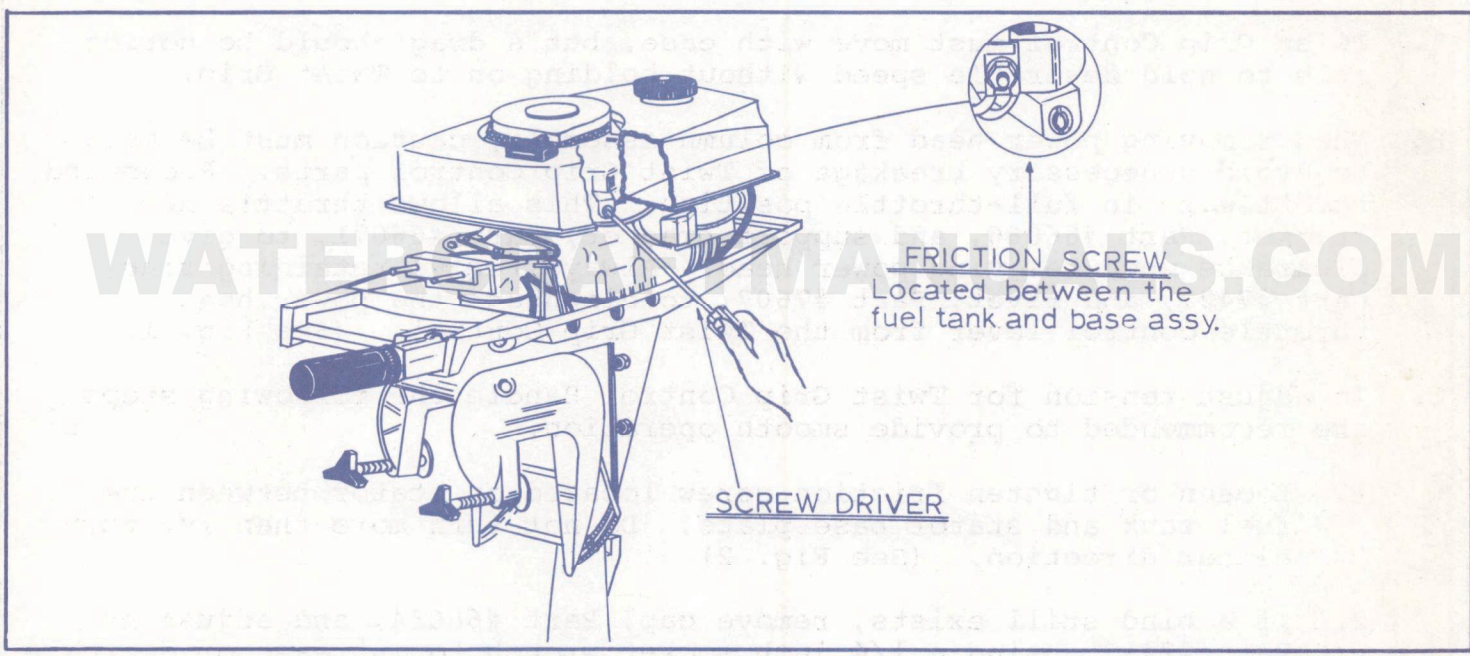

Figure 2
1. Loosen or tighten friction screw located on stator between the fuel tank and stator base plate. Do not turn more than 1/2 turn either direction. (See Fig. 2)